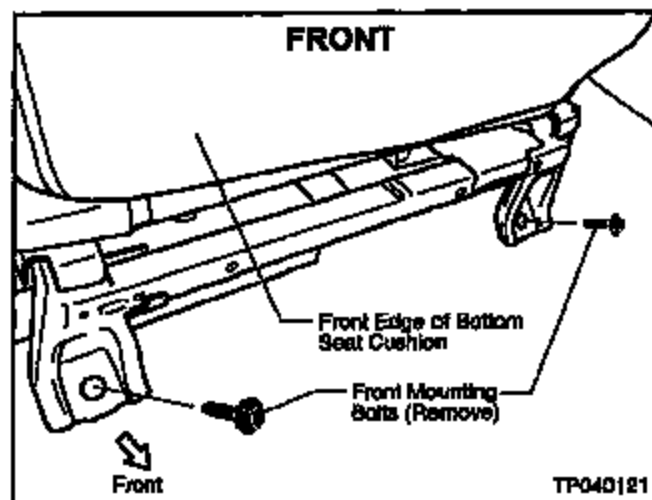

Figure 7
11. Remove the two Mounting Bolts that secure the front of the seat frame (see Figure 7).